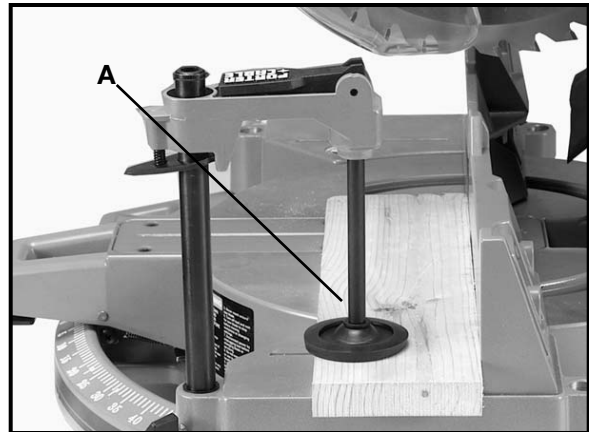

Fig. 35
3. Place the workpiece on the table and hold or clamp it firmly against the fence. Fig. 35 illustrates the optional work clamp (A) being used to clamp a workpiece to the fence and table.
4. **WARNING:** If the workpiece causes your hand to be inside the table hazard area (see section “**TABLE HAZARD AREA**”), clamp the workpiece in place before making the cut, as shown in Fig. 35.